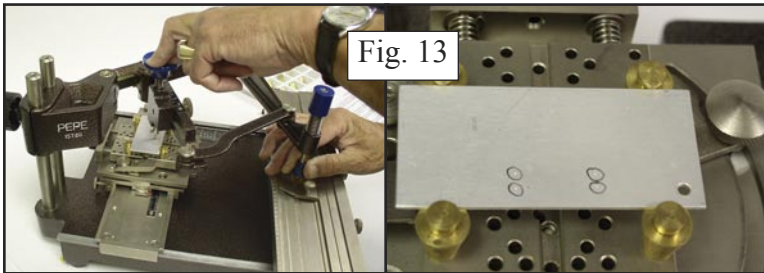

Fig. 13
15. To move the table to the exact position where you want to start the first letter, place the tracing stylus in the groove of the first letter at the upper extreme left side, which would be the very beginning of the letter. Bring the engraving stylus down and touch the surface of the article. This will leave a very tiny mark, which indicates the beginning of the letter. Move the tracing stylus to the bottom of the letter and make another mark. This indicated the height of the letter. Move the tracing stylus to the end of the word or name and repeat the marking process. With these marks, you will know the beginning, end and height of the word or name. If the dots are not in the position you want them to be, move the table accordingly. ***Fig. 13***